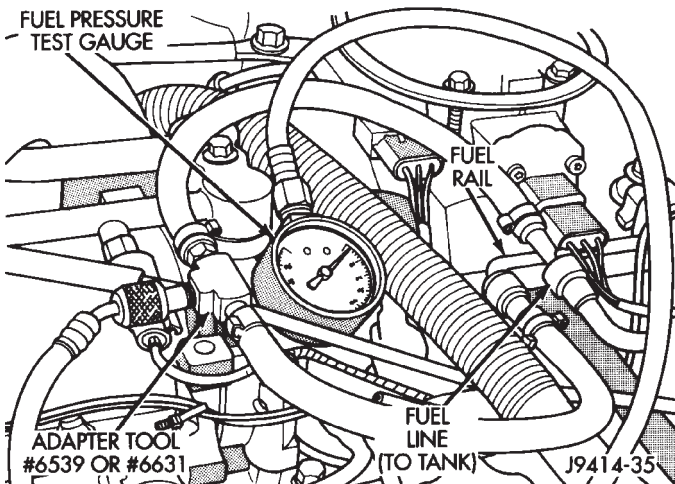
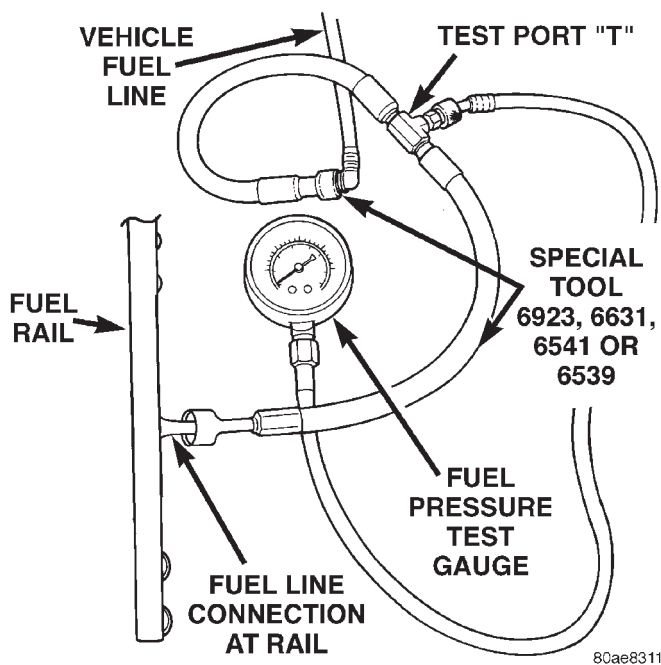

Fig. 8 Connecting Adapter Tool—Typical
Fig. 9 Connecting Adapter Tool—Typical
(1) Disconnect the fuel inlet line at fuel rail. Refer to Fuel Tubes/Lines/Hoses and Clamps in this section of the group for procedures. On some engines, air cleaner housing removal may be necessary before fuel line disconnection.
(2) Obtain correct Fuel Line Pressure Test Adapter Tool Hose. Tool number 6539 is used for 5/16" fuel lines and tool number 6631 is used for 3/8" fuel lines.
(3) Connect correct Fuel Line Pressure Test Adapter Tool Hose between disconnected fuel line and fuel rail (Fig. 8) or (Fig. 9).
(4) Connect the 0-414 kPa (0-60 psi) fuel pressure test gauge (from Gauge Set 5069) to the test port on the appropriate Adaptor Tool. **The fittings on both tools must be in good condition and free from any small leaks before performing the proceeding test.**
(5) Start engine and bring to normal operating temperature.
(6) Observe test gauge. Normal operating pressure should be 339 kPa \pm 34 kPa (49.2 psi \pm 5 psi).
(7) Shut engine off.
(8) Pressure should not fall below **30 psi for five minutes.**
(9) If pressure falls below 30 psi, it must be determined if a fuel injector, the check valve within the fuel pump module, or a fuel tube/line is leaking.